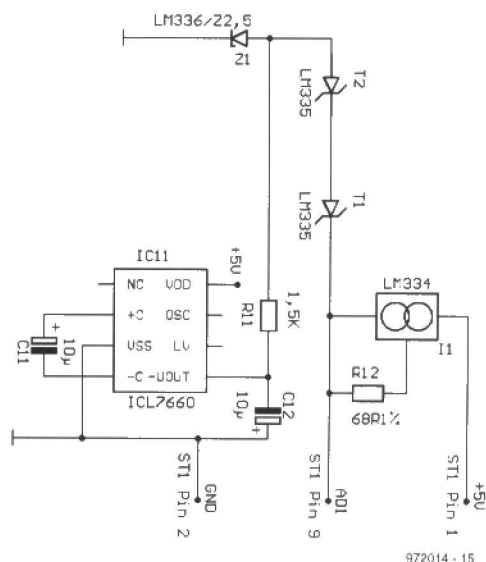
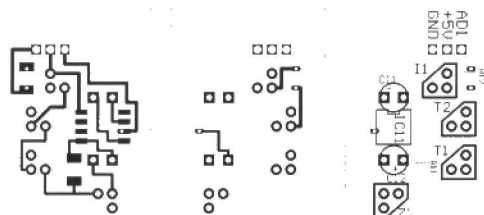

Figure 7. This temperature measurement circuit for use with thermometer/thermostat program PRG-4 offers higher accuracy.
Figure 8. Artwork of the double-sided PCB designed for the temperature measurement circuit of Fig. 7.
- ⇒ Temperature offset range -6°C to +6°C in 1°C steps. Jumper functions and connections are identical to PRG-3. The circuit shown in **Figure 7** is connected to ST1. This slightly more elaborate measurement circuit is constructed on the printed circuit board shown in **Figure 8**.
COMPONENTS LIST ref. Figs. 7 and 8